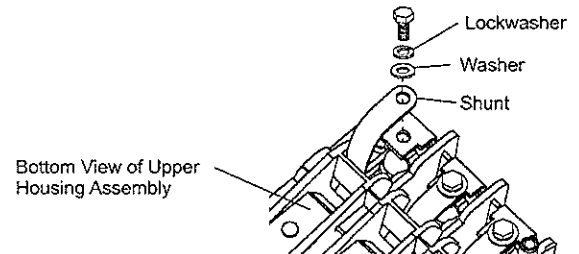

FIGURE 6A
6. Remove the hardware that secures the shunt to the terminal (FIGURE 6A).
9. Attach the Shunt to the Load Terminal by placing the Shunt against the Terminal with the flat washer and lock washer between the Shunt and the head of the bolt (FIGURE 6A), and tighten until the lock washer is fully compressed (or up to 60 inch-pounds).